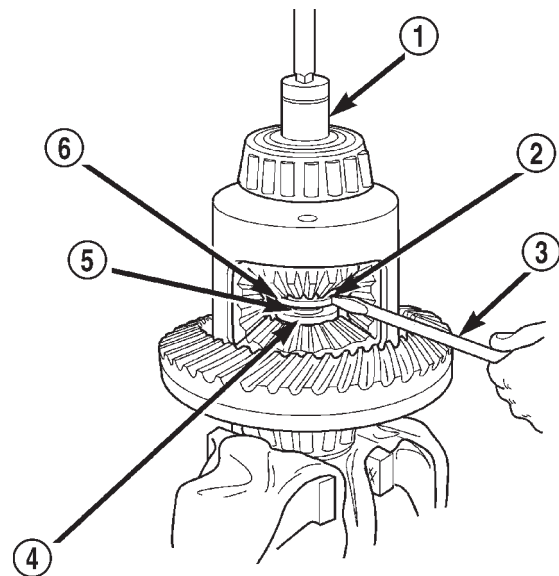

Fig. 56 Threaded Adapter Installation
(7) Assemble Threaded Adapter C-6960-1 into top side gear. Thread Forcing Screw C-6960-4 into adapter until it becomes centered in adapter plate.
(8) Position a small screw driver in slot of Threaded Adapter C-6960-1 (Fig. 56) to prevent adapter from turning.